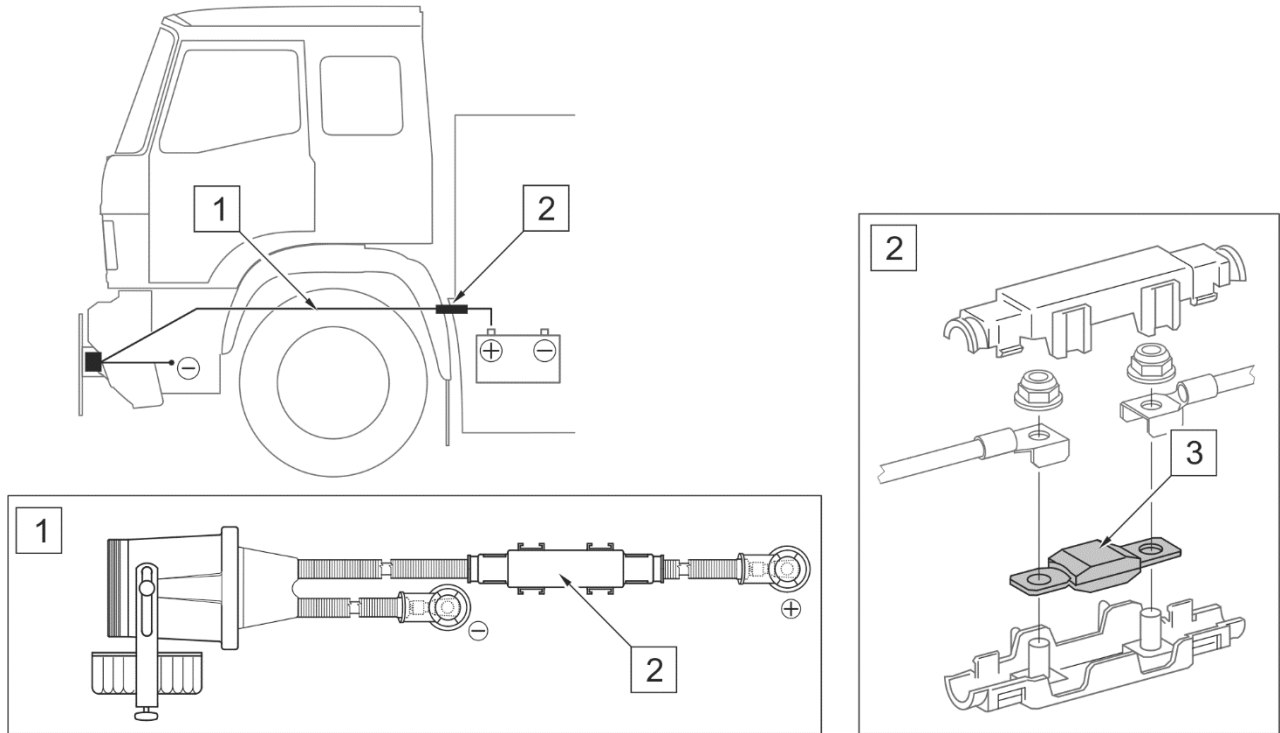

FIGURE 5.7 Replacing the fuse of Power-Pack power supply
(1) - high current power lead; (2) - fuse holder; (3) - MEGAVAL 175A fuse
There is a 175A MEGAVAL fuse (3) on the supply conduit (+) of the electrical system of Power-Pack power supply (FIGURE 5.7). In order to replace the fuse, open the housing (2) and undo the nuts fixing the leads inside the housing.